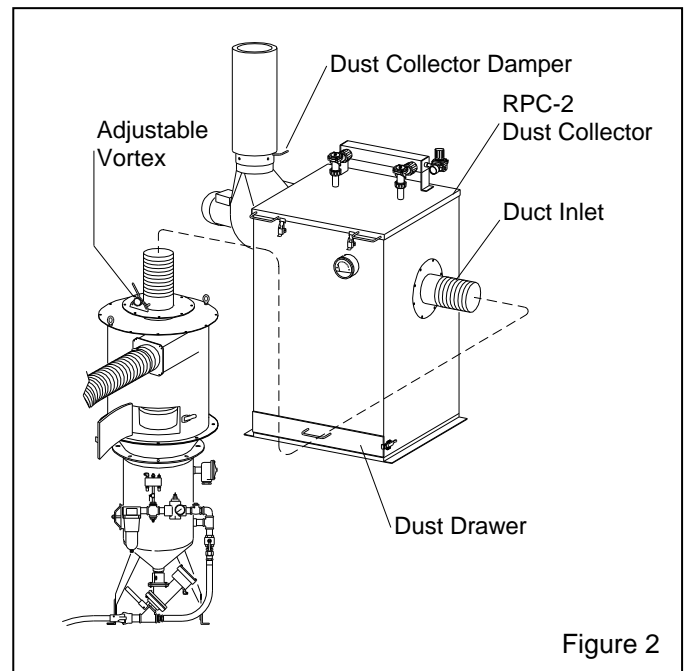

Figure 2
1.3.3 Refer to Figure 1 for arrangement of components using a CDC-1 dust collector. Figure 2 shows the arrangement with an RPC-2 (900 cfm) reverse-pulse dust collector with dust drawer.
1.7.2 RPC-2 Dust Collectors: Shown in Figure 2, this collector is available 900 cfm. Dual filter cartridges are automatically cleaned by a timed, periodic pulse of compressed air. Dust collects in the drawer and must be frequently emptied. Refer to manual number 22788.
1.7.3 RPH Dust Collector: The RPH-2 is for use with 900 cfm models and RPH-3 for use with 1200 cfm models. They are set up and operate the same as the RPC-2, as shown in Figure 2, but instead of a dust drawer, the collector sits atop a hopper, which provides additional dust storage, and empties into a drum. Refer to RPH manual number 21449.
2.1.1 Refer to Figure 1 (and Figure 2 for optional RPC-2 dust collector) for the general arrangement and Figure 7 for the control line schematic. Place all components in a convenient location where compressed air and electrical service are available. The cabinet location must comply with OSHA and local safety codes. Allow for full access to all doors and service areas, and for efficient handling of large parts. Provide enough clearance at the dust collector for maintenance and to remove the dust container. Place the blast machine directly behind the cabinet with the blast hose connection toward the cabinet. The reclaimer may be rotated on the blast machine to make hose connections with as few bends as possible. Determine the best location for all components and position them before making compressed air connections, electrical connections, and attaching flex hose.